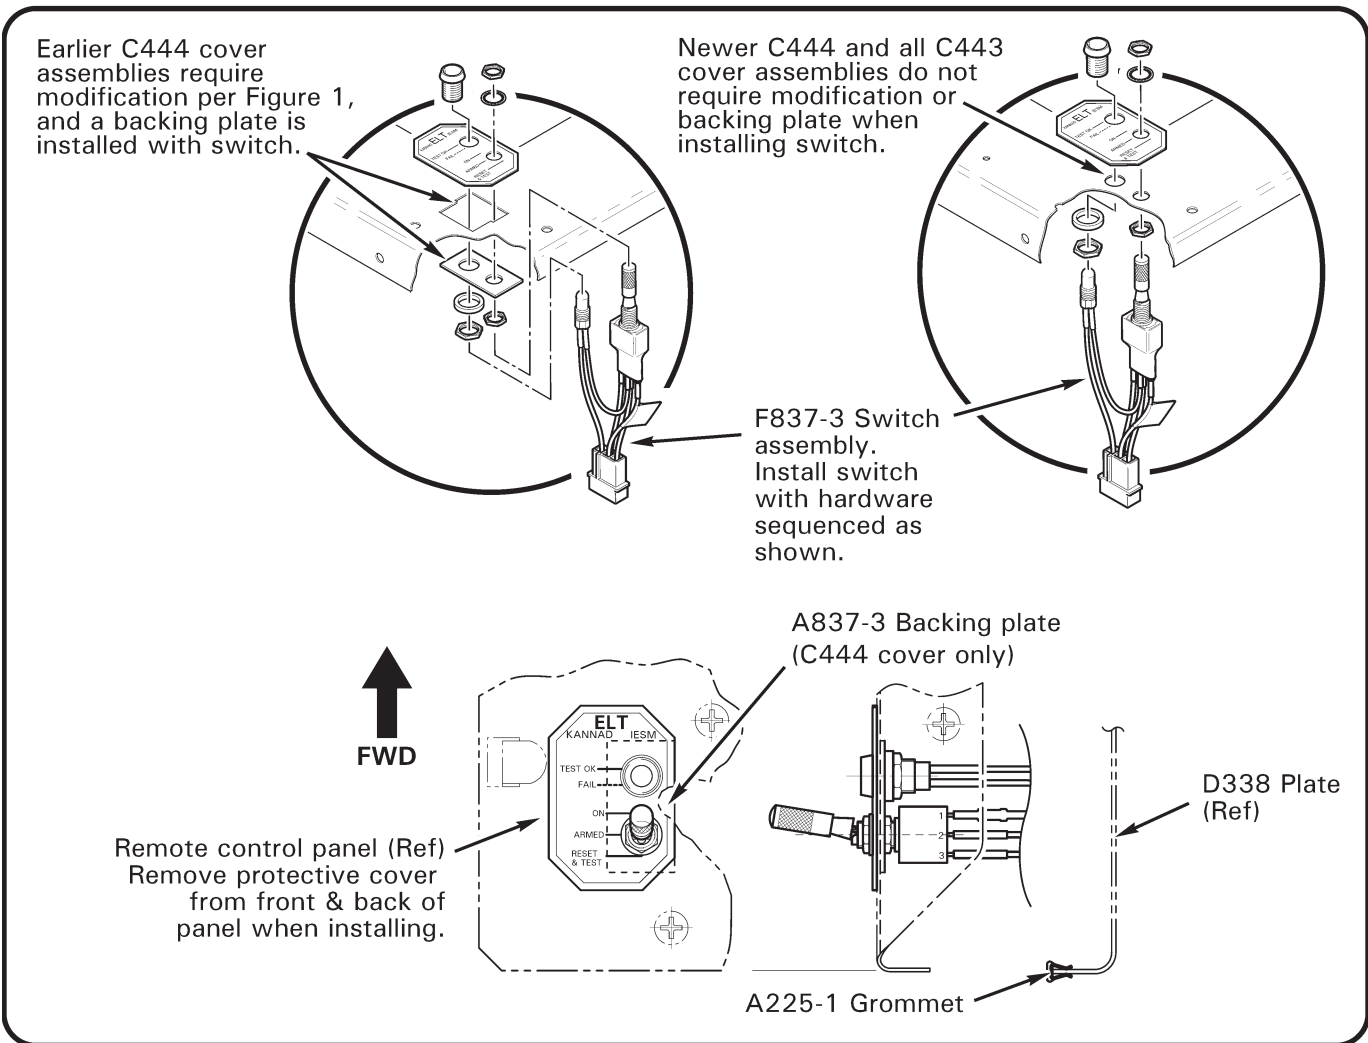

FIGURE 2
6. Refer to Figure 2. Install F837-3 remote switch assembly into C444 or C443 cover with “RESET & TEST” position of switch AFT and secure with supplied hardware. Verify that momentary position of switch coincides with “RESET & TEST” position. Reinstall post light. Unmask cyclic box area. Install A225-1.1FT grommet, cut to an approximate length of 4.5 inches.